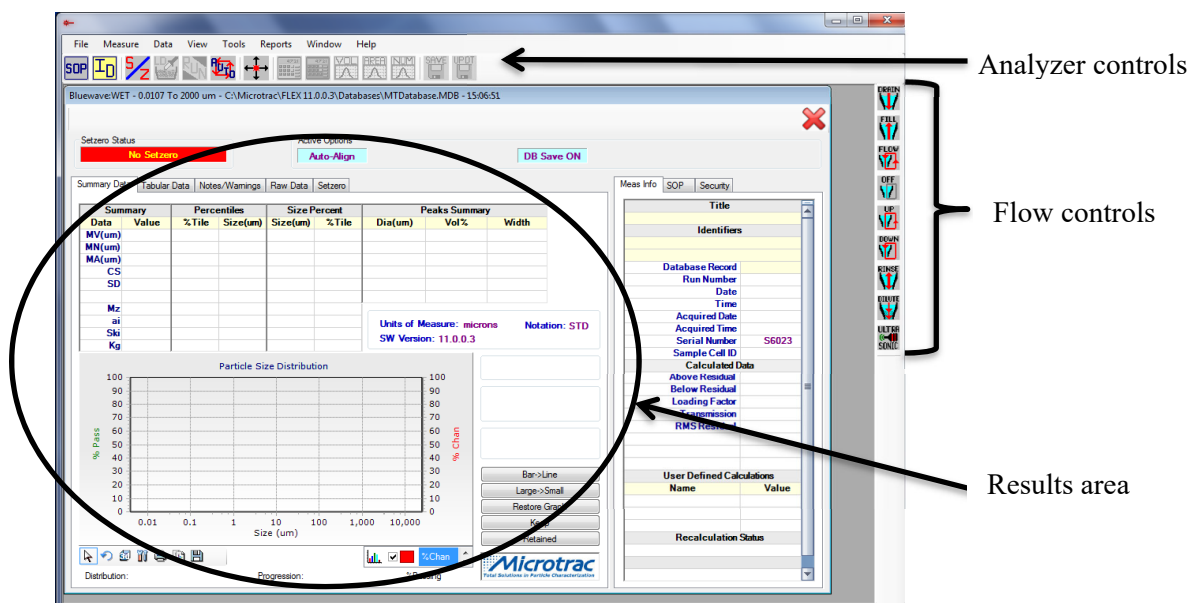

Figure 3. Flex software home screen
- d. Open the Microtrac Flex software. Figure 3 shows the Flex software start screen. The controls on the right side of the screen will be used to control the flow system. To operate the SIA simultaneously with laser diffraction, see the SOP for the Bluewave.
- 4. Loading the sample.** Once the measurement SOP has been designed in the PartanSI software, you must start the SDC flow system. Go to the Flex software home screen (Figure 3) and use the flow controls on the right side of the screen.